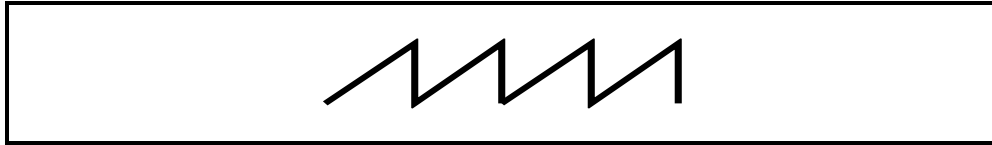

FIGURE 4.1.1
4.1 Identify the following waveforms as shown in FIGURES 4.1.1 to 4.1.4.